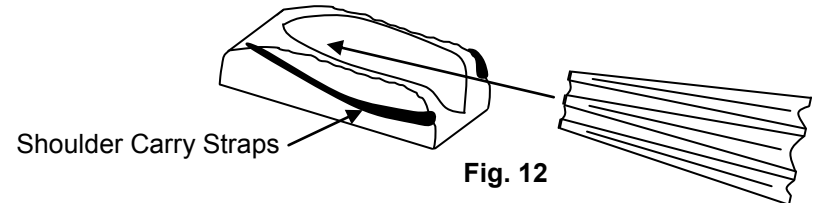

Fig. 12
5) Put tent into bag with hubs at the bottom of bag. (Fig. 12)